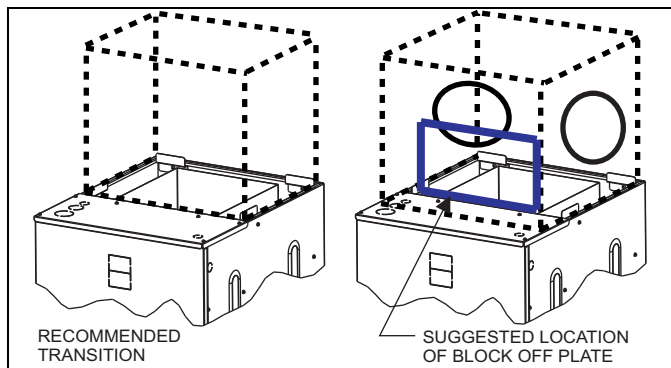

FIGURE 8: Ductwork Transition
*The condensate deflector should be installed in the s-clip section which is inside the drain pan edge. See Figure 8.*